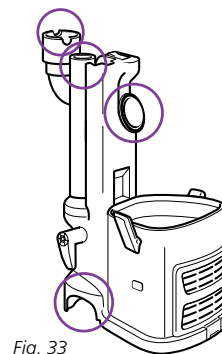

Fig. 33
- Remove the dust cup and extension wand and separate the portable *Lift-Away*® canister from the motorized floor brush. Look in all 4 openings for any blockages. (Fig. 33)